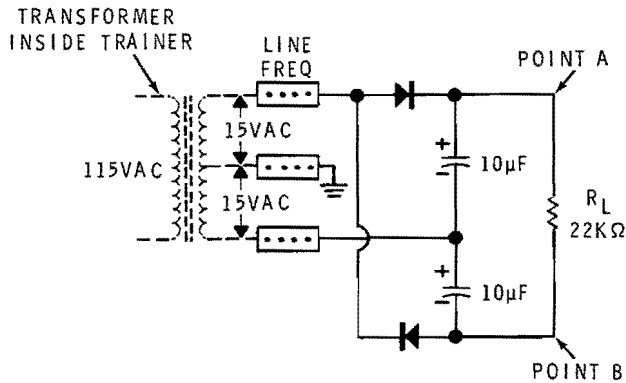

Figure 4-35
42. Turn the Trainer off and construct the circuit shown in Figure 4-35. Be sure to observe polarity when connecting the diodes and capacitors.